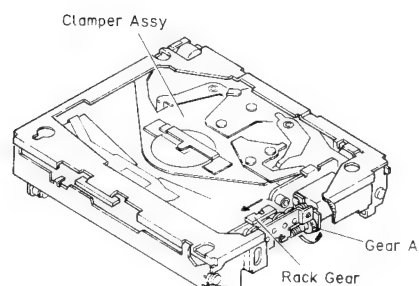

Fig. 10
1. Turn the gear A manually in the arrow direction. (Fig. 10)
2. Press the rack gear in the arrow direction and engage gears.(Fig. 10)
3. Put into the play mode. (The clasper assembly is at low position.) (Fig. 10)